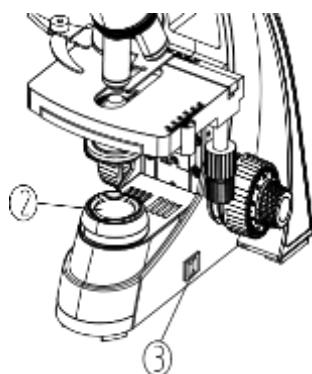

Fig.2
4. When working, the surface of the condenser will be very hot. Make sure there is enough room for the heat dissipating around the condenser② (see Fig. 2).
5. For safety, make sure the power switch is at "O" (OFF) and power it off before replacing the bulb or fuse (See Fig. 2), and wait until both the bulb and bulb holder have cooled down.